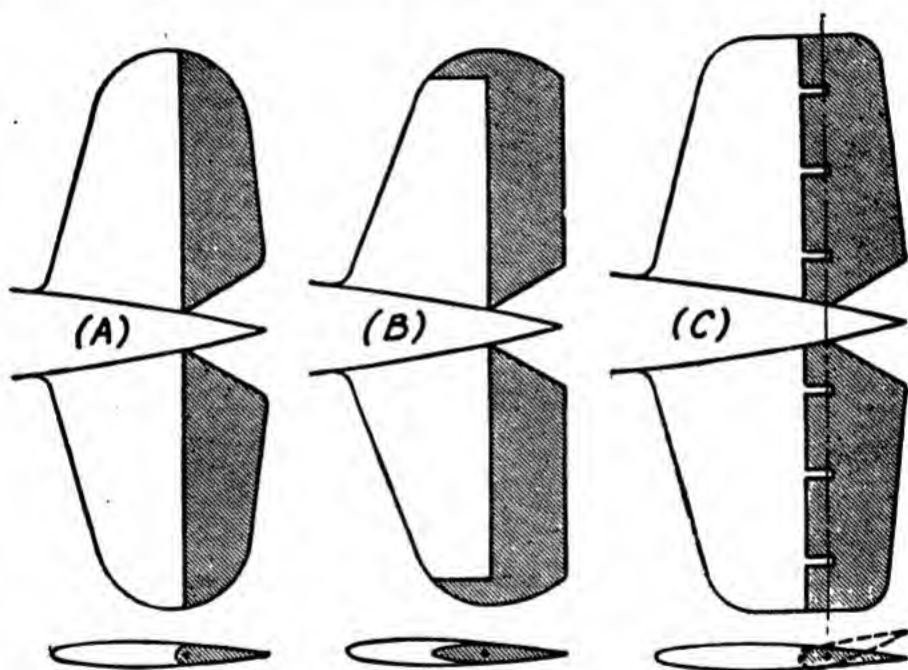

Figure 8.—Elevators and stabilizers.
You'll find that stabilizers and elevators are constructed in various shapes. Figure 8 shows three typical types. You can see in (B) and (C) of the diagram that part of the elevator extends